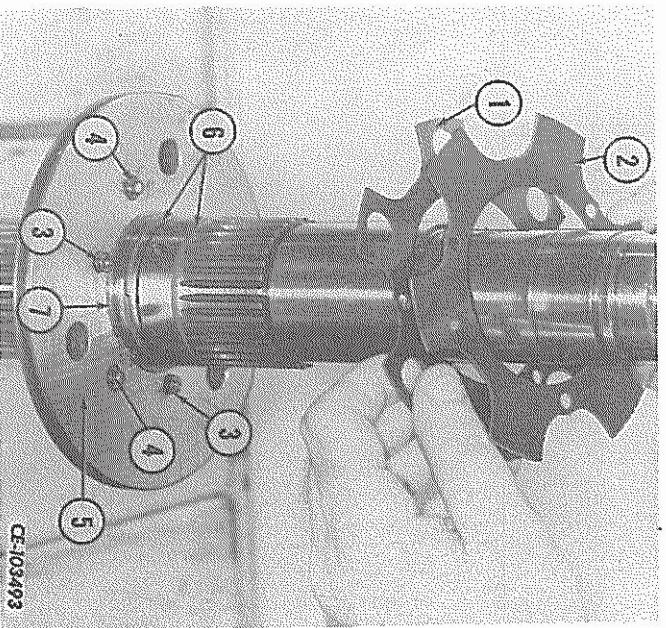

FIG. 55 — Removing the Reinforcing Disc and Disc Valve
45. Remove the reinforcing disc (1, Fig. 55) and disc valve (2) from the guide pins (4) in the separator plate. Remove the three guide pins and the three sets of inner and outer release springs (3) from their respective bores in the separator plate (5).
46. Reverse the shaft assembly on the bench and remove the remaining accelerator piston, reinforcing disc, disc valve and springs in the same manner as was done in steps 44 and 45. Then remove and discard the two hook-type seal rings (6, Fig. 55) from each side of the separator plate (5).
49. Do not remove the separator plate (5, Fig. 55) from the shaft unless it is damaged and a new plate is to be installed. The separator plate is thermally fitted on the shaft and must be removed by one of the following methods to prevent damaging the shaft.
1. If the separator plate (5, Fig. 55) was removed, install the new plate as follows:
Be sure one of the snap rings (7, Fig. 55) is installed on the shaft. Heat the separator plate in oil to 177°C to 204°C (350°F to
4. Install the reinforcing disc (1, Fig. 55) and disc valve (2) onto the release springs.
NOTE: The reinforcing disc is of heavier gauge metal and contains six oil passage holes. The reinforcing disc must be assembled next to the separator plate (Fig. 55).